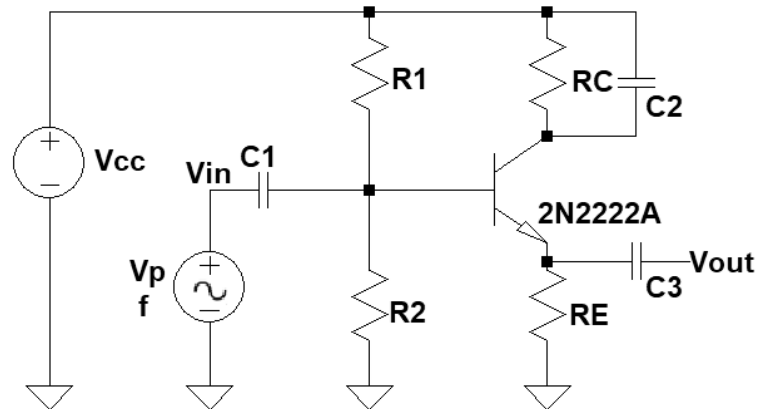

Figure 4 AC circuit for common collector amplifier
1. Connect the circuit as shown in Figure4.